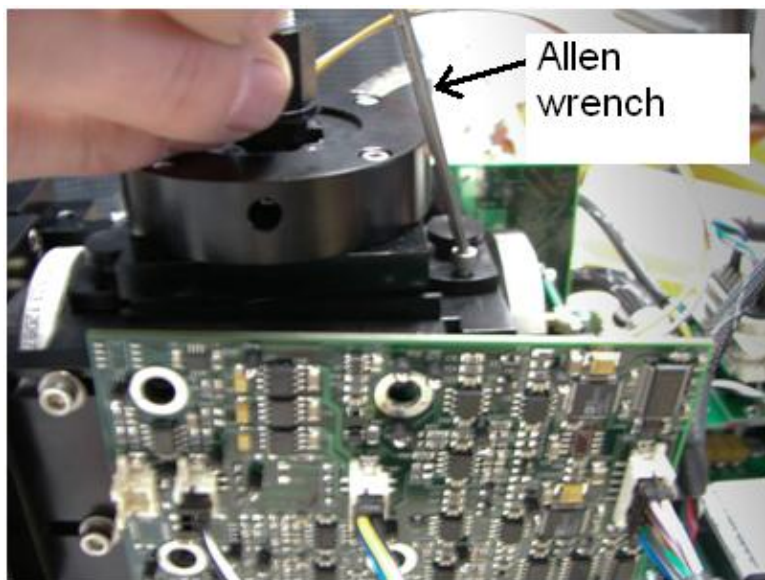

Figure 21: Loosening Screws on Cleaning Port
- 5.) Using a 3/32" Allen wrench, loosen the thumbscrews on the cleaning port for the mirror optics (Figure 21). Remove the port, ensuring the o-ring stays with the port.